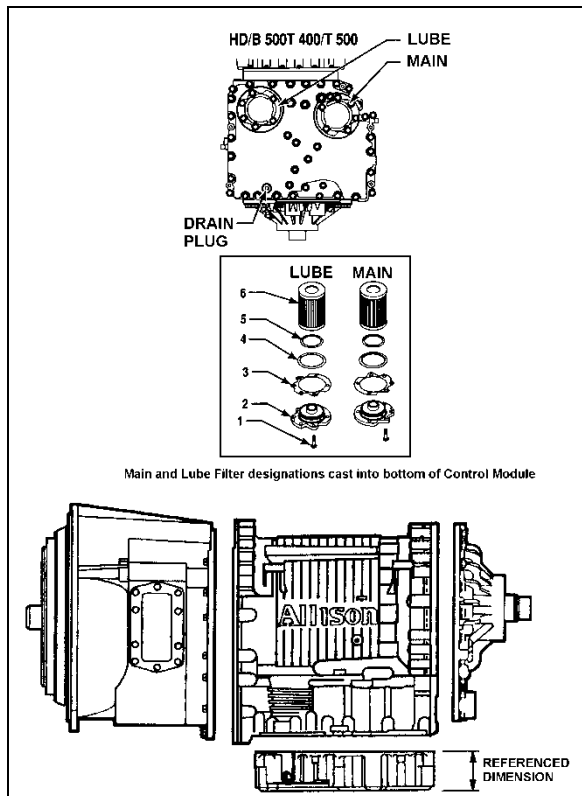

FIGURE 6: DRAIN PLUG AND FILTERS 07052
2. Remove the drain plug from under the transmission (Figure 6) and allow the oil to drain into a suitable container. Check the condition of the oil as described previously.
3. Remove twelve bolts (item 1), two filter covers (item 2), two gaskets (item 3), two O-rings (item 4), two O-rings (item 5) and the two filters (item 6) from the bottom of the control module (Figure 6).
4. When reinstalling parts, lubricate and install new O-rings (4) and (5) on each cover (2). Lubricate O-ring inside filter (6) and push filter onto cover (2). Install new gaskets (3) on cover (2) and align holes in gaskets with holes in cover.